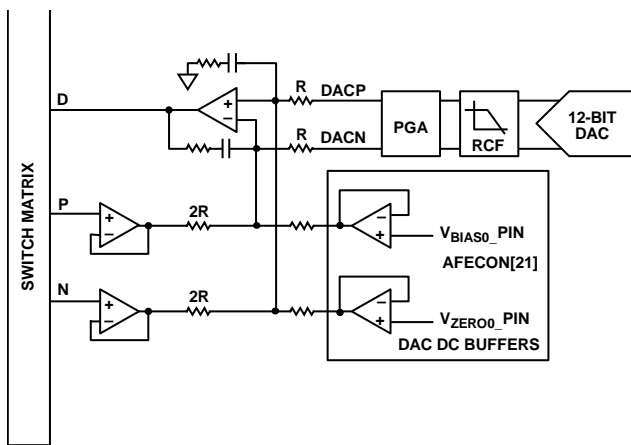

Figure 26. High Speed DAC Excitation Amplifier
Figure 26 illustrates the operation of the excitation amplifier and its connection to the switch matrix. There are four inputs to the excitation amplifier: DACP, DACN, positive (P), and negative (N). The high speed DAC is a differential output DAC where the positive and negative inputs feed directly to the excitation amplifier.
2. The DAC dc buffers must be enabled (AFECON, Bit 21 = 1). Figure 26 shows the connection of the dc buffers to the excitation amplifier. These buffers enable the low power DAC outputs to drive the required bias voltage to the excitation amplifier and the high speed TIA.